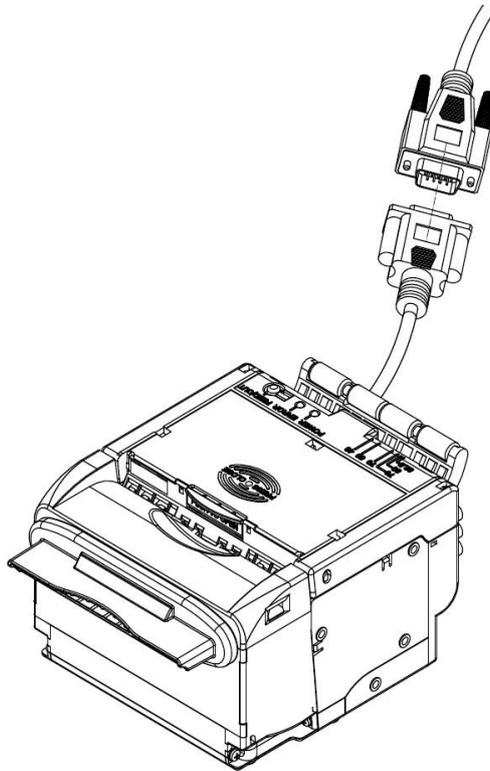

Fig. 4.5-3 Connect the straight-through cable to the serial connecting cable
- 3) Connect the straight-through cable to the serial connecting cable as shown in the Fig.4.5-3;